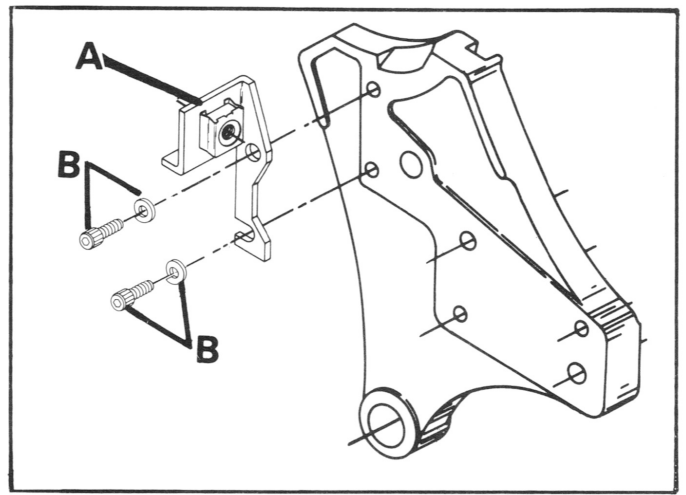

Fig. 7
1. Assemble bracket (A) to the inside of saw carriage using two screws and washers (B), as shown in Fig. 7. Do not tighten the two screws at this time. NOTE: Snap out the nut retainer to make this operation easier.